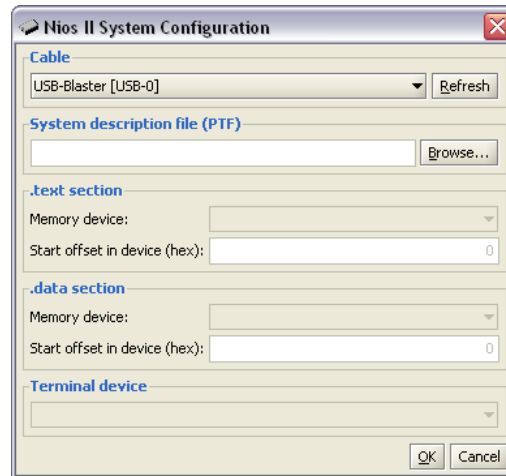

Figure 8. Initial Nios II System Configuration window.
To describe the Nios II system to the Debug Client, click the **Nios II > Configure system...** menu item or click the  toolbar button. The **Nios II System Configuration** window will appear, similar to Figure 8. Proceed with the steps below to configure the example system.
- In the System Configuration window in Figure 8, click **Load**. The fields in the **.text section** and **.data section** will now be enabled.